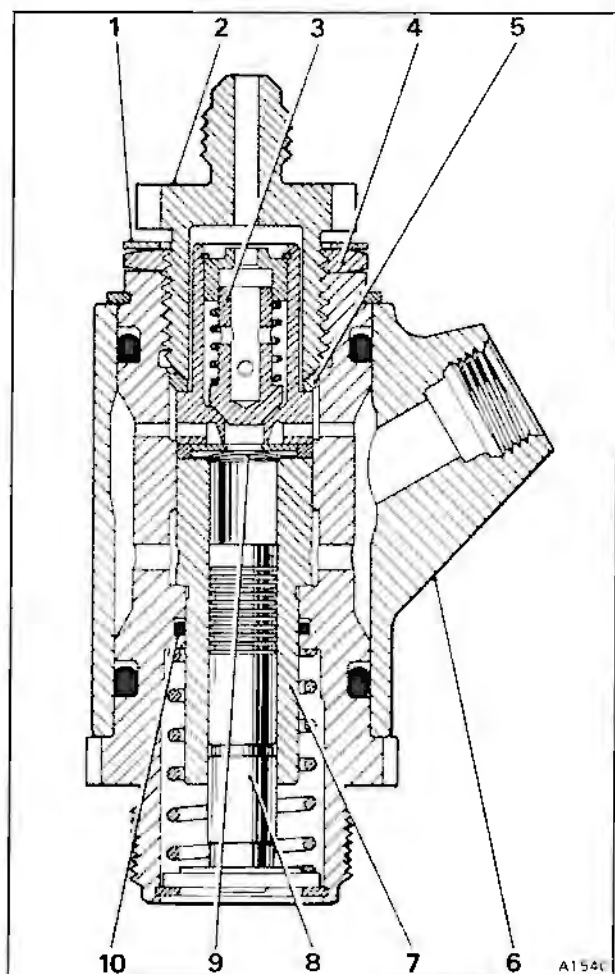

Fig. G8-2 Hydraulic pump
Hydraulic pump housing sealing rings – To renew (see fig. G8-2)
7. Fit the pump outer housing with care, aligning the port with the inlet pipe. Press the housing firmly into position, then fit the circlip (see fig. G8-2).
Hydraulic pump – To dismantle (see fig. G8-2)
Hydraulic pump – To assemble (see fig. G8-2)